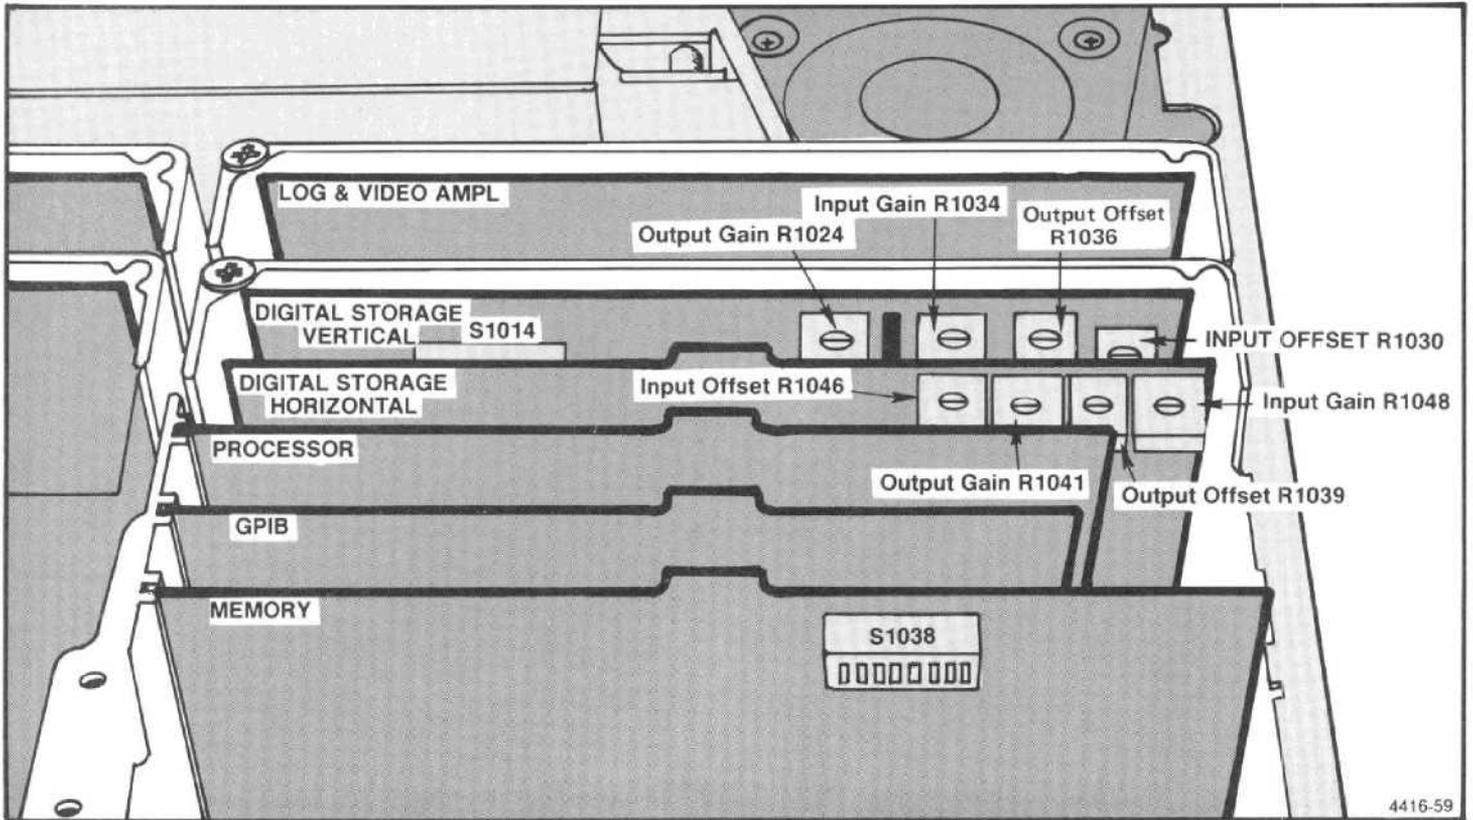

Figure 5-24. Digital storage calibration adjustments.
(1) adjust Output Offset, R1039 (Figure 5-24) so the left edge of the cursor is at the left edge of the crt (about 0.25 division over-span from the left graticule line);
(2) adjust Output Gain, R1041 (Figure 5-24) so the right edge of the cursor is at the right edge of the crt;
(3) alternately switch VIEW A on and off while adjusting Input Gain, R1048 (Figure 5-24) so the storage signal at the right edge tracks with the non-store signal.
(4) alternately switch VIEW A on and off while adjusting Input Offset R1046, so the stored display at the left edge tracks with the non-store display.
(1) Output Gain R1024 and Output Offset R1036 (Figure 5-24) are adjusted at the factory. In the 494P only, an alternate procedure follows. These adjustments should not be changed; however, if they are disturbed, center the adjustments and Input Gain R1034 before proceeding;
(2) activate 2 dB/DIV display mode and turn PEAK/AVERAGE control clockwise;
(3) using a signal near the bottom of the display, adjust Vertical Offset R1030 (Figure 5-24) so the stored display is the same amplitude as the non-store signal;
e. Adjust the following to match the step waveform to the graticule: (Figure 5-24)
j. Again, while pressing VIEW B repeatedly, adjust Input Gain R1034 on the Vertical Digital Storage board (Figure 5-24) to minimize the amplitude difference between the stored and non-store waveforms.
m. Press VIEW B repeatedly and adjust Input Gain R1048 on the Horizontal Digital Storage board (Figure 5-24) so the horizontal position of the stored signal matches that of the non-stored signal.
When B—SAVE A is selected, the expression implemented is (B—SAVE A)+k, where k is a constant set by the input data for an 8-to-4 line encoder, U1015. Each bit will move the reference level about 0.2 minor division. Normally, the reference level is set at the center graticule line; however, it can be set anywhere within the graticule area by the setting of an 8-bit binary switch, S1014 (Figure 5-24). The MSB (switch #8) shifts the display about five divisions, switch #7 half this amount, etc. The following procedure sets the reference level.